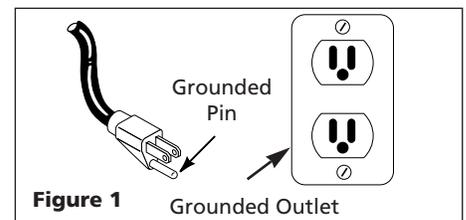

Figure 1
- This product is for use on a nominal 120 volt circuit and has a grounding plug that looks like the plug illustrated in Figure 1. Make sure the product is connected to an outlet having the same configuration as the plug. This product must be grounded. In the event of an electrical short circuit, grounding reduces risk of electrical shock by providing an escape wire for electric current. This product is equipped with a cord having a grounding wire with an appropriate grounding plug. Plug must be plugged into an outlet that is properly installed and grounded in accordance with all local codes and ordinances.